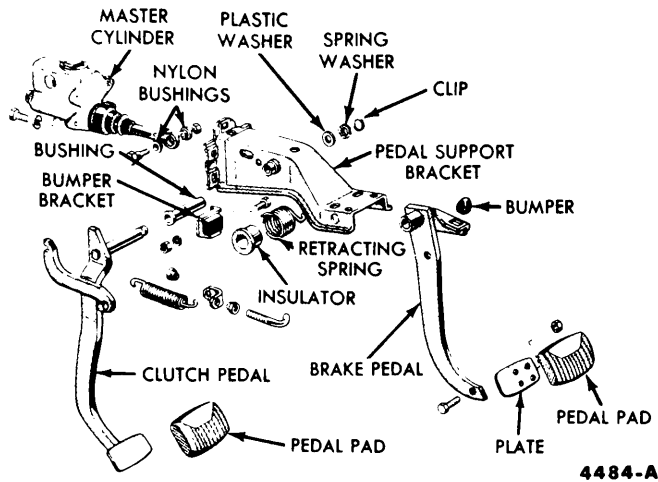

FIG. 9—Brake Pedal and Related Parts
1. With a screwdriver, unseat the retracting spring from the brake pedal and from the hole in the pedal support bracket (Fig. 9).
3. Remove the 5 nuts and lock-washers which attach the master cylinder and pedal support bracket to the dash panel (Fig. 9). Remove the cylinder from the mounting bolts, sliding the boot from the push rod.
1. Position the pedal assembly in the pedal support bracket (Fig. 9). Insert the brake pedal shaft and bushing from the right side of the support bracket and push the shaft all the way through the bracket. Install
1. Turn the pedal support bracket to the right, position the brake pedal assembly in the support bracket, insert a ½ inch diameter drift in right side of support bracket to maintain alignment of the brake pedal assembly (Fig. 9).